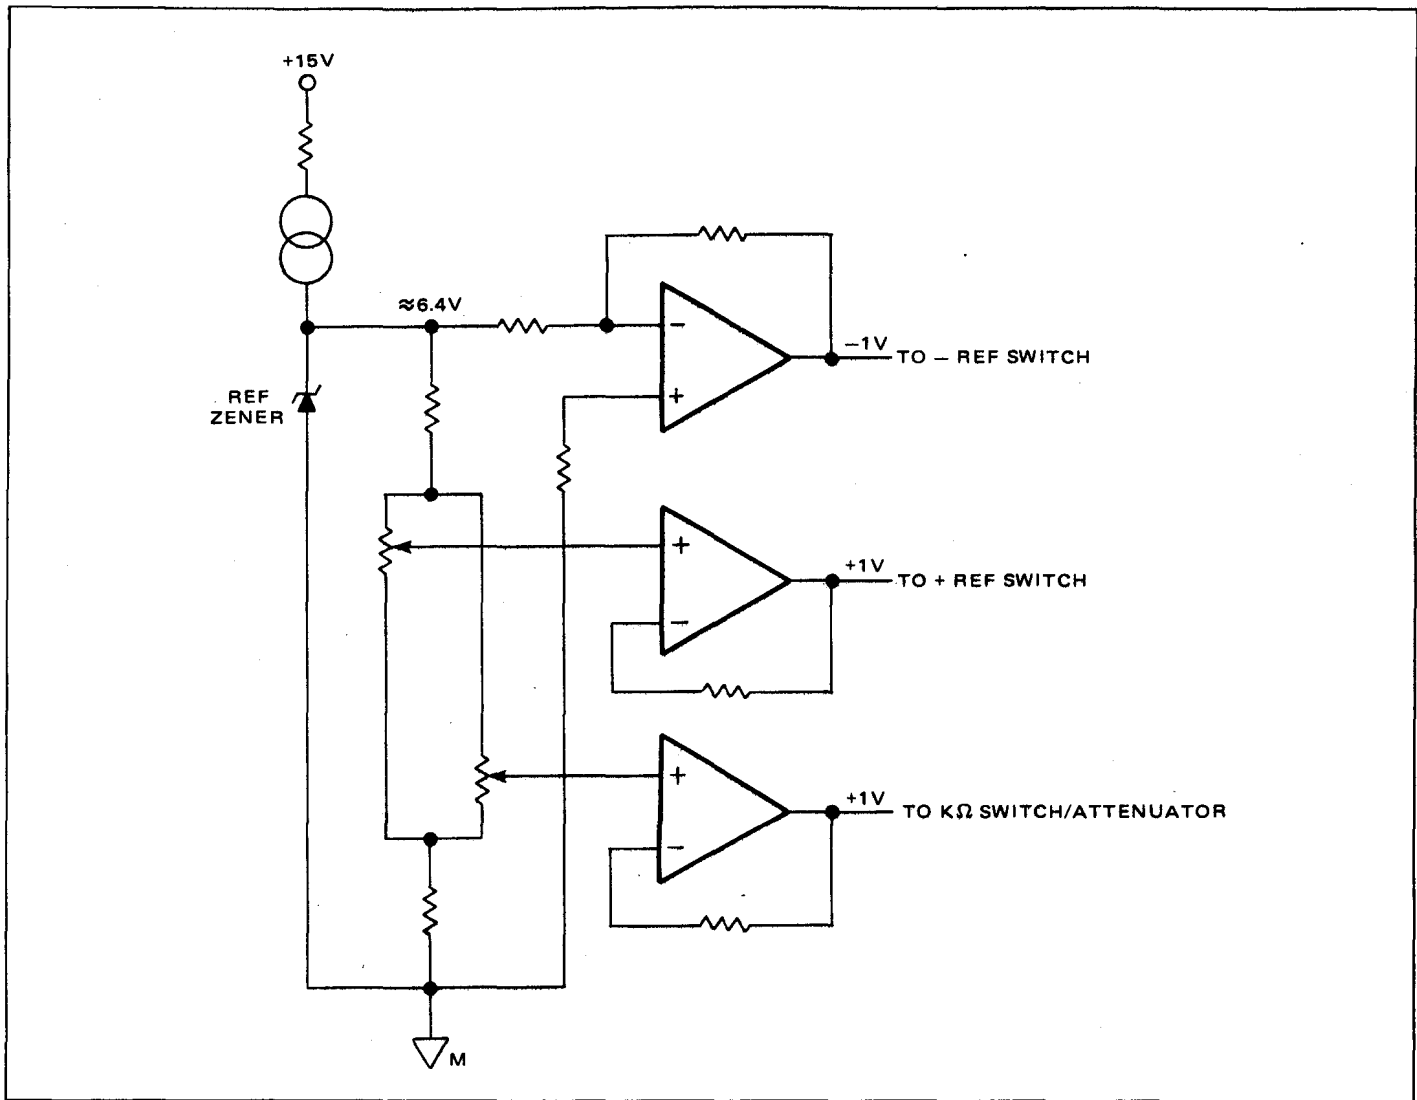

Figure 4.10 - Reference Generator
4.21 *Reference Generator.* The reference generator is the source of the + and - reference voltage used by the integrator and of the +1V source used for ohms measurement at the voltage attenuator and current shunt circuit. The reference generator is illustrated in figure 4.10. The reference device is a selected high stability zener diode operated at its zero temperature coefficient current. It produces approximately 6.4V. As shown in figure 4.10, this 6.4V is applied across a voltage divider network which provides the reference input to three operational amplifiers. The -1V reference amplifier is configured with feedback calculated to cause it to produce exactly -1V dc output for the - reference source. The other two 1V reference amplifiers are connected to a voltage divider through potentiometers which are adjusted to provide +1V dc from the reference source. These two amplifiers are operated at unity gain, are non-inverting, and produce a positive 1V dc output.